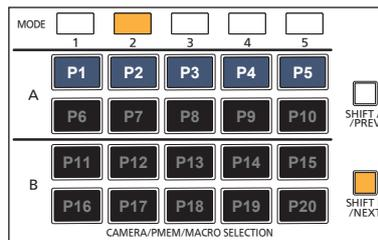

Figure 2
1. Press the [SHIFT B/NEXT] button. (Figure 2)